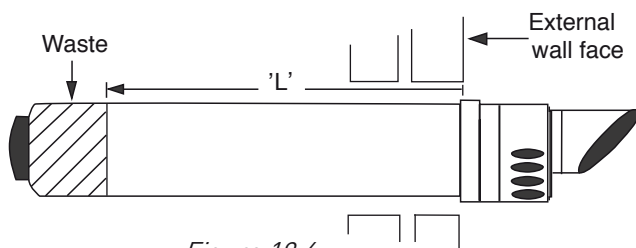

Figure 10.6
10.8 On installing the flue, determine the required length of the **outer air duct** by measuring the distance 'L' (*Figure 10.6*) from the face of the external wall to the back of boiler's elbow connecting collar. The measurement for the **inner flue duct** will be 'L' + 20mm